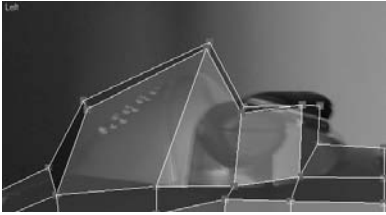

Figure 5.48
12. Switch to Vertex mode, and using the Front, Side, and Top viewports, move the vertices of the control panel to line up with the real rocket's control panel in the image planes, as shown in Figure 5.48.